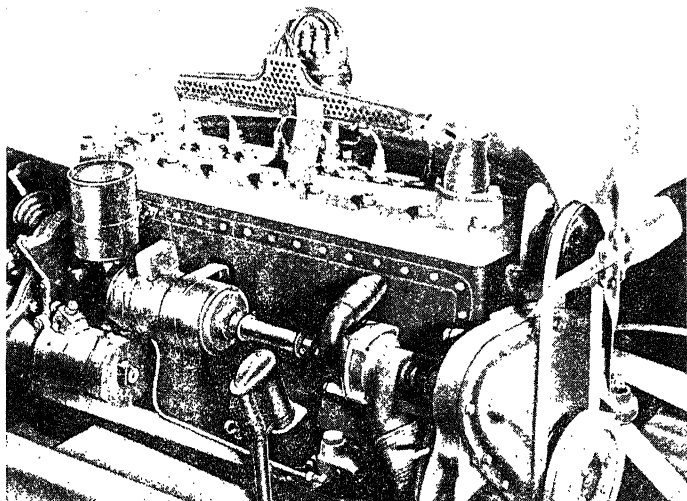

Fig. 12. Centrifugal Water Pump on Graham "8"
**Water Pumps.** The centrifugal type is of standard design and is illustrated in Fig. 12, as used on Graham "8." At the lower part of the pump are to be found the pet cocks. In all water-cooling systems, a pet cock or pet cocks are provided at low points so that when draining, the entire amount of water may be withdrawn. When draining a cooling system, especially if draining to prevent freezing, it is always well to operate the engine for a time in order to have the pump draw out or free any water which might have